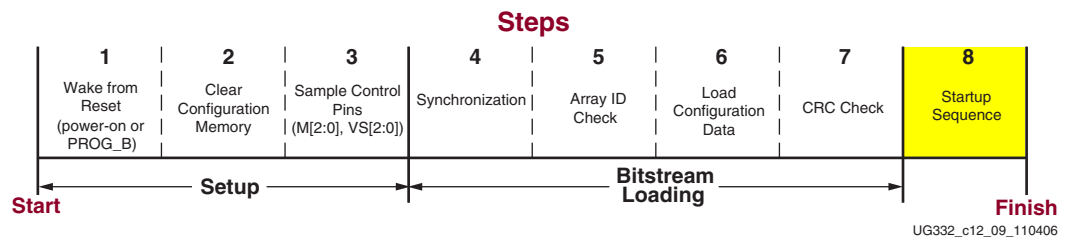

Figure 12-11: Startup Sequence
3. Hold the `DONE` pin Low, which prevents the FPGA from completing the Startup Sequence, shown as Step 8 in Figure 12-11, page 233.